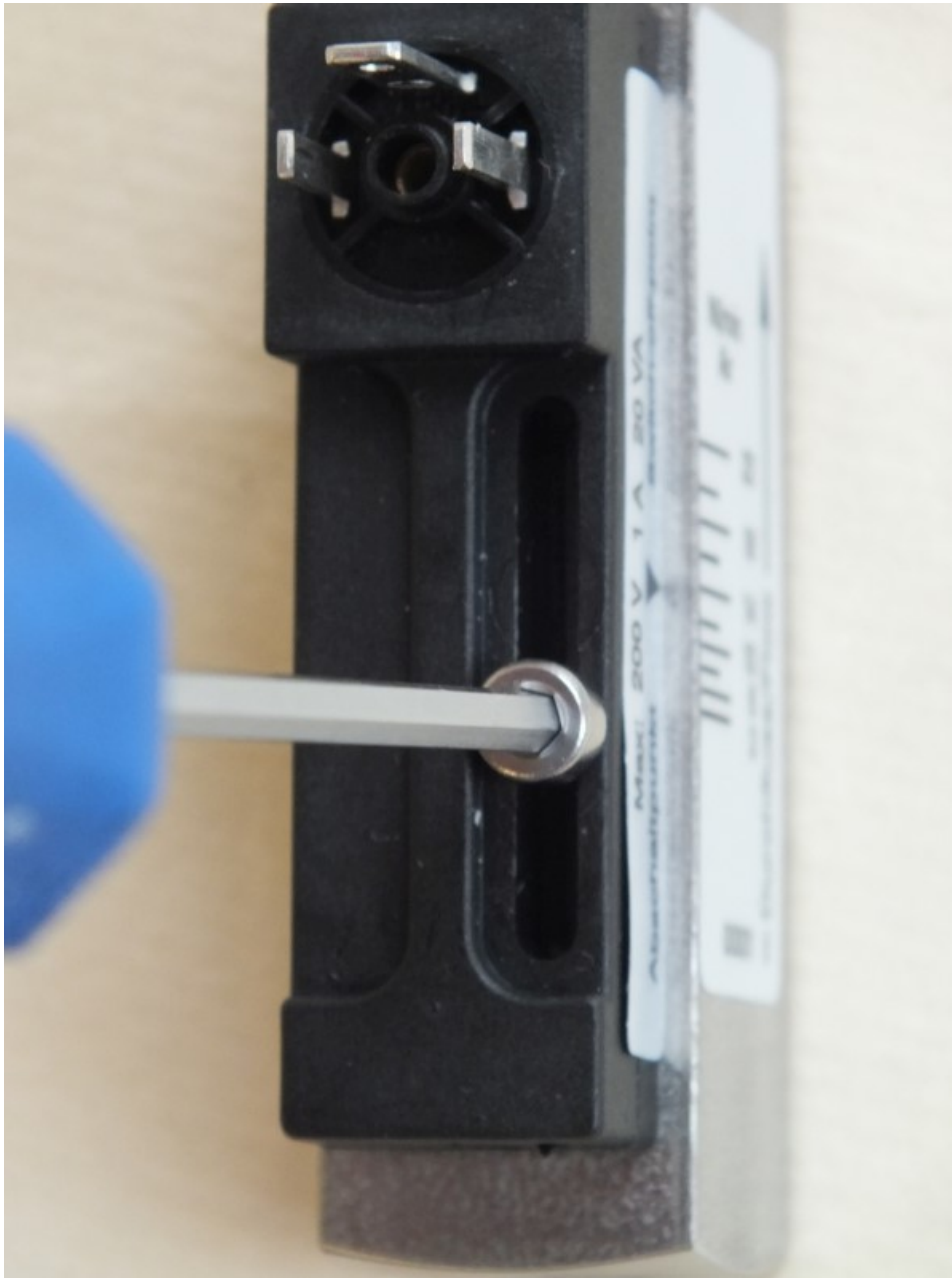

Fig. 33: Loosen the set screw
1. ➤ Loosen the set screw of the switch contact (Fig. 33) using a Hex screwdriver.
3. ➤ Re-tighten the set screw of the switch contact (Fig. 33) using a Hex screwdriver. When doing so, observe the correct tightening torque.